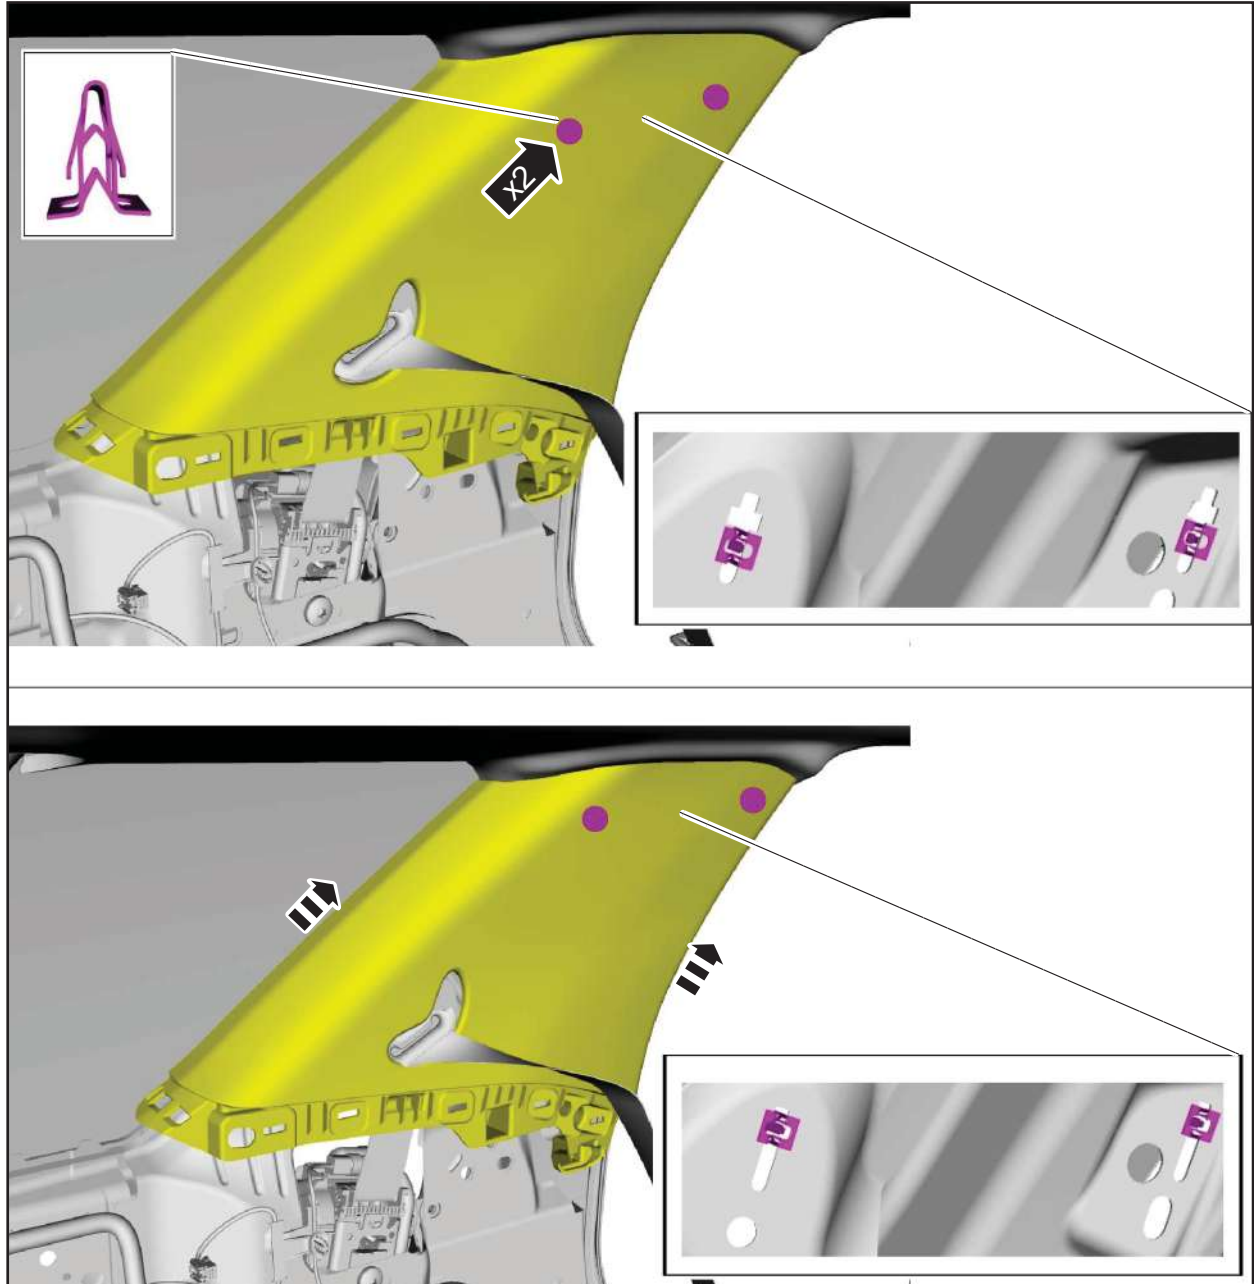

FIGURE 27
27. Slide the LH C-pillar trim panel up, aligning the clips to the slots in the sheet metal. See Figure 27.